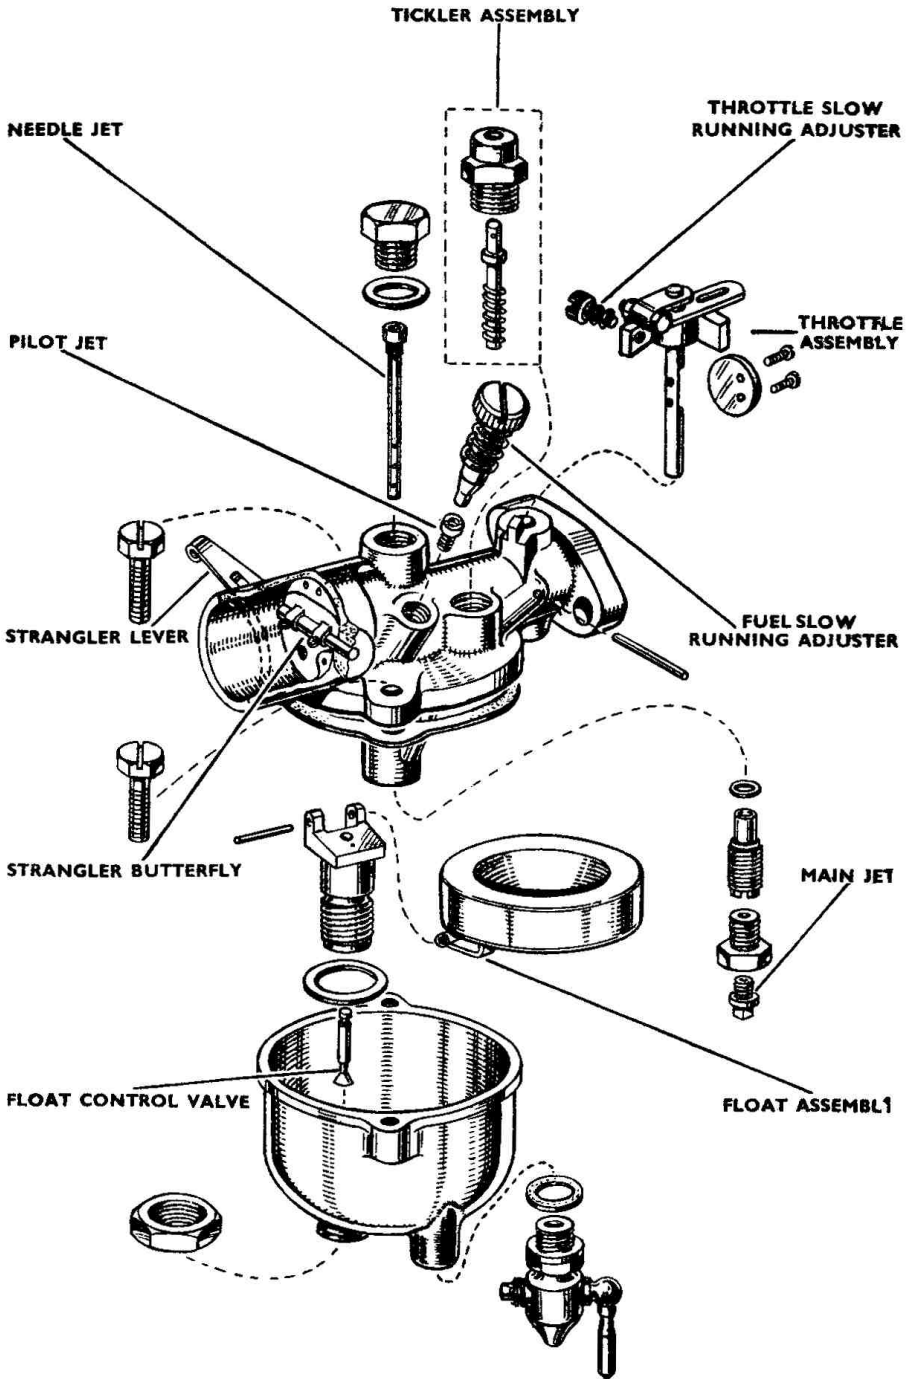

Fig. 11. The Amal Carburetter.
(The drain tap shown in Fig. 11 is fitted to this carburettor when the engine is running on Power Paraffin or Vapourising Oil).
The Amal carburetter (see Fig. 11) is tuned at the factory before delivery and the only point likely to require attention during running
The correct breaker point opening is .012 in. When re-adjustment is necessary, loosen the screws (B) and (C) Fig. 11, which lock the fixed contact plate (A), and move the plate until the correct opening of points is obtained. Then lock the plate securely. If the points need replacing, both the fixed and moving points should be replaced at the same time. On the 220 c.c. engine the contact breaker points are identical but are in a slightly different position.